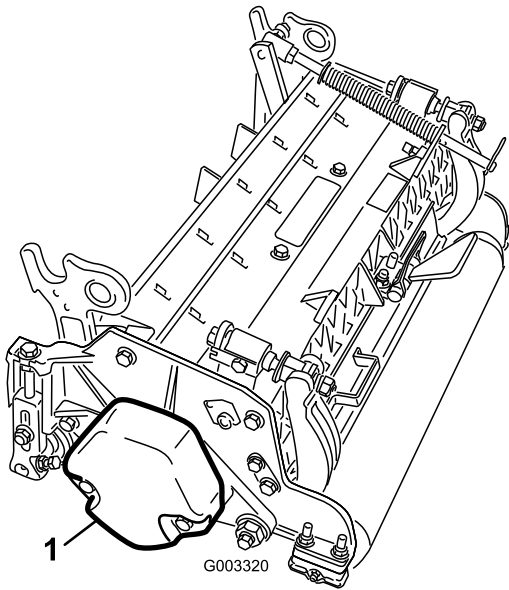

Figure 3
4. Make sure that the counterweight (Figure 3) is installed to the proper end of each cutting unit as described in the *Operator's Manual* for the cutting units.